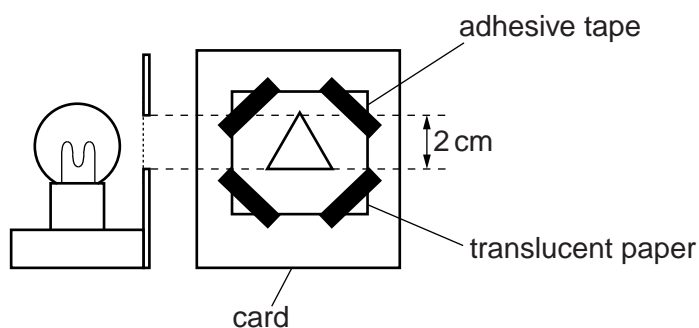

Fig. 1.1
- (iv) Illuminated object consisting of a rigid card with a triangular hole of height approximately 2 cm (see Fig. 1.1 and notes 1 and 2). The hole is to be covered with thin translucent paper (e.g. tracing paper) secured with adhesive tape.